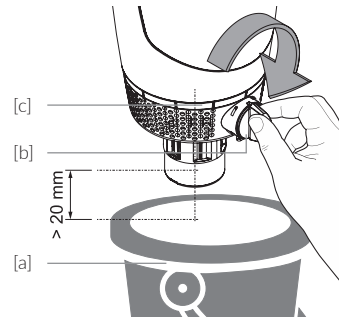

Fig. 8.1
According to **DIN EN 1717**, there must be a minimum distance of 20 mm from the upper edge of the collection vessel [a] to the lower edge of the drain funnel (Fig. 8.1). If the mains pressure is high, water may spray out of the drip tray, in which case water damage to nearby objects is possible!
- / Turn the backwash handle [b] 90° in the direction of the arrow (Fig. 8.1) and start the backwash process
- / to relieve the pressure, turn the backwash handle [b] 90° in the direction of the arrow as described in chapter 8 Backwashing, Fig. 8.1